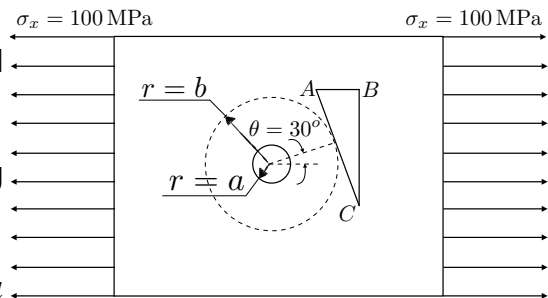

Figure 3: A “Thin” Plate with a Hole
5. The following questions pertain to the “thin” plate of unit thickness with a hole subjected to a tensile stress as shown in Figure 3.